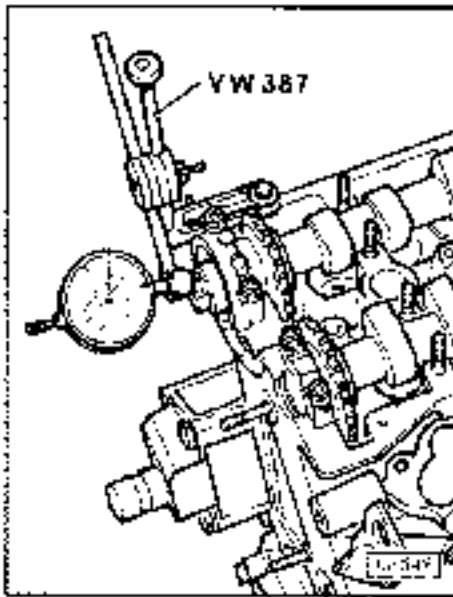

Fig. 3. Working slightly different.
- Check gasket for damage - Fig. 3